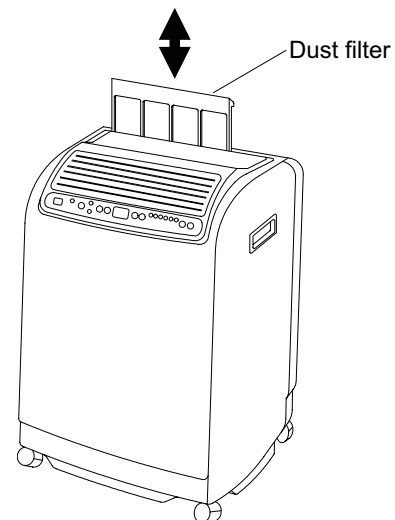

Fig. 17
1. Remove the dust filter. (Fig. 17).